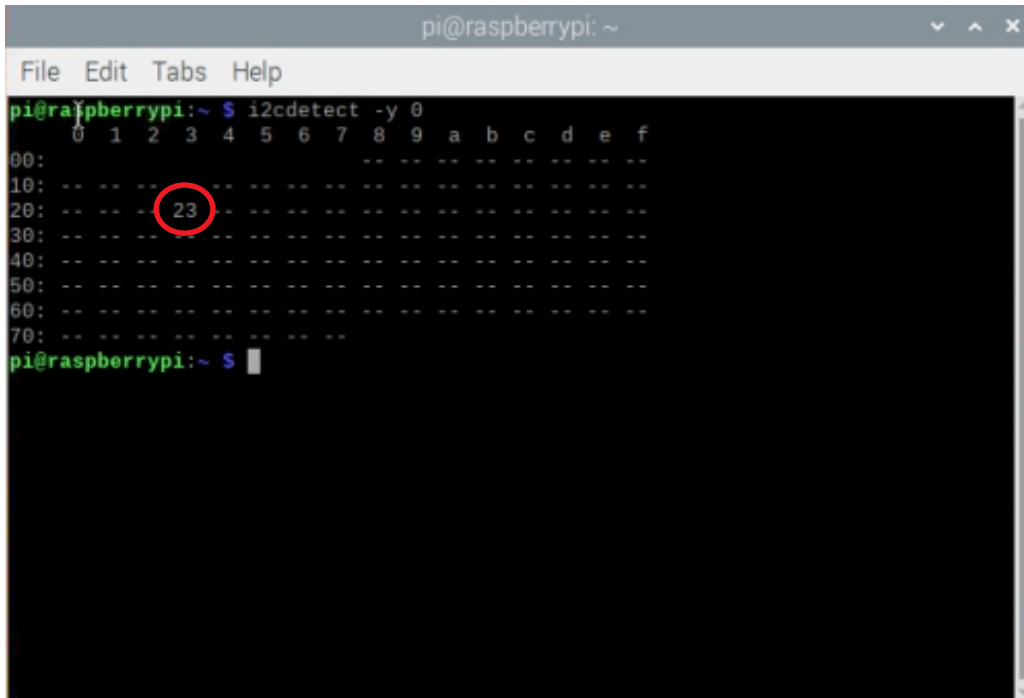

Figure 2: The Digital Input Module I2C address check result .
4. The result will be similar to the Figure 2 shown below.